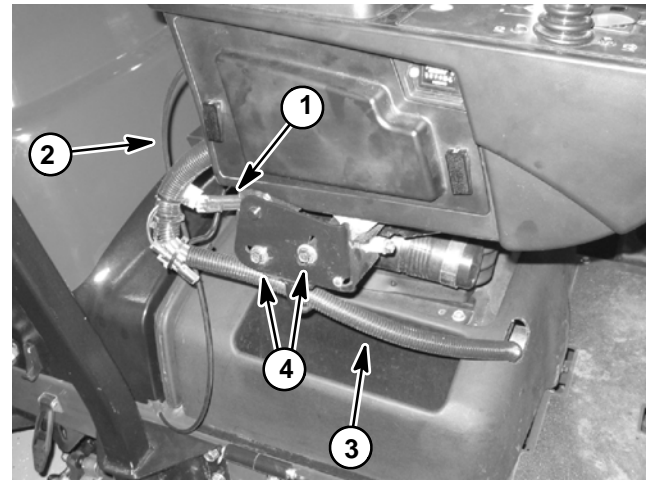

Figure 16
3. Disconnect seat switch electrical connector from wire harness (Fig. 16).
4. Remove two (2) flange head screws and flat washers that secure control arm assembly to seat base (Figs. 16 and 17).
3. Make sure that two (2) bushings are positioned in control arm. Carefully slide control arm assembly onto seat base post. Secure control arm assembly to seat base with two (2) flange head screws and flat washers (Figs. 16 and 17).
4. Connect seat switch electrical connector to wire harness (Fig. 16).